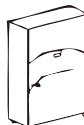

FIG 1
1. After the stove has been removed from its packaging, remove the back panel inside the rear cavity. (Fig 1).